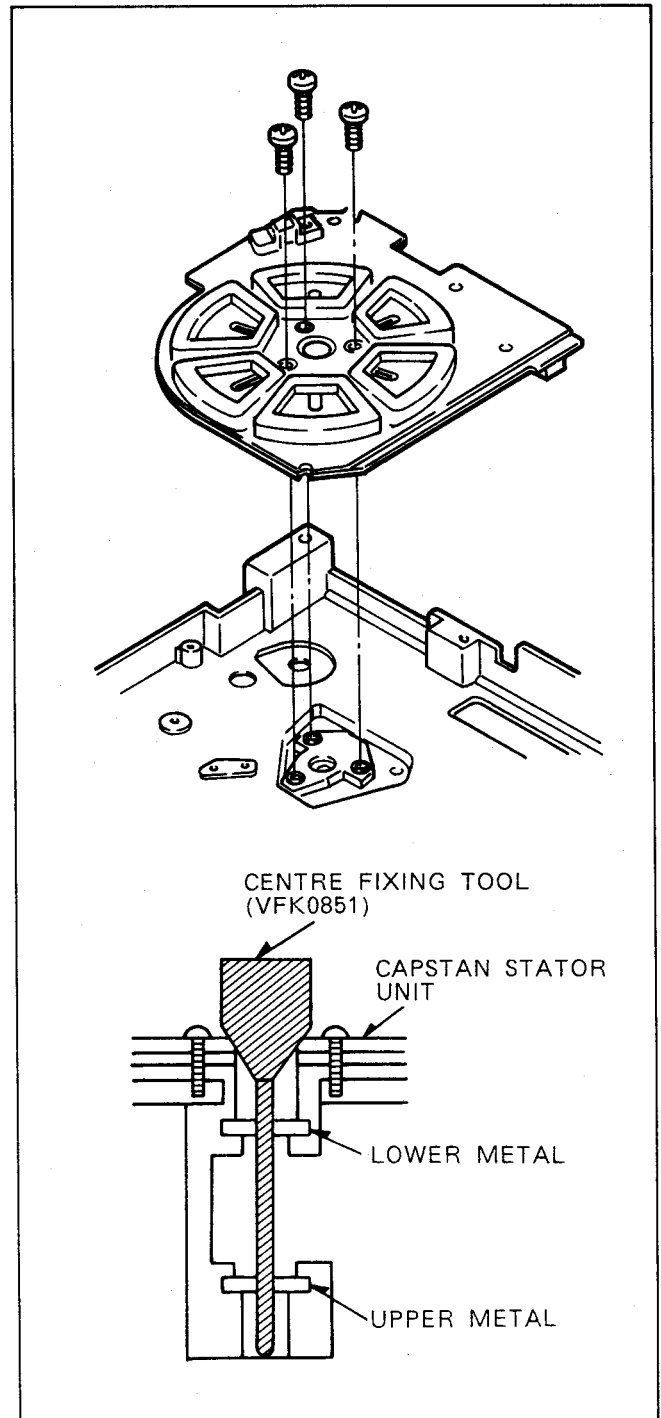

Fig. S5
- 3) Insert the CENTRE FIXING TOOL (VFK0851) as shown in Fig.S5.